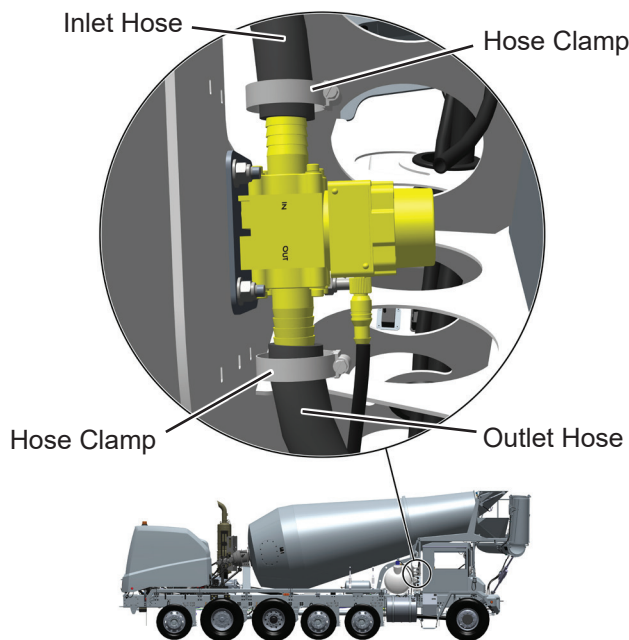

Figure 6
11. Reconnect inlet and outlet hoses to water meter and tighten hose clamps to 45 in. lbs. See Figure 6.